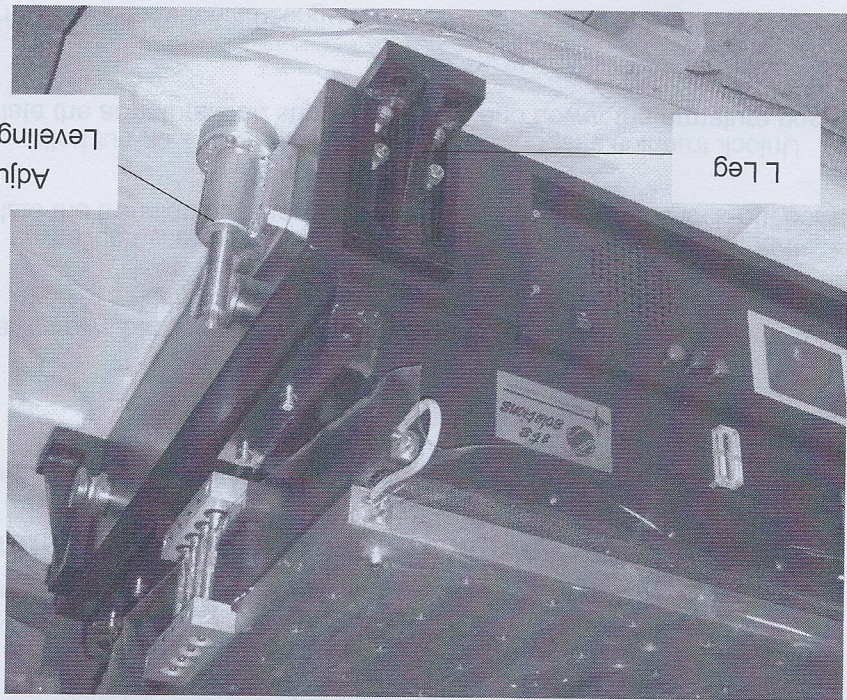

Figure 5-1 Slip Table Adjusting Leveling Feet and L Leg
8. Adjust and check slip table location and alignment. Adjust the slip plate level by three adjusting leveling feet with wrench, see Figure 5-1. To keep the slip plate end surface to align with driver bar, adjust the slip table horizontal location and the connections between armature and driver bar. An engineer's level should be used to check that the slip plate is level.
11. Loosen the fixing screws of three L legs (refer to Figure 5-1) to drop the legs down to foundation. And then tighten the fixing screws.